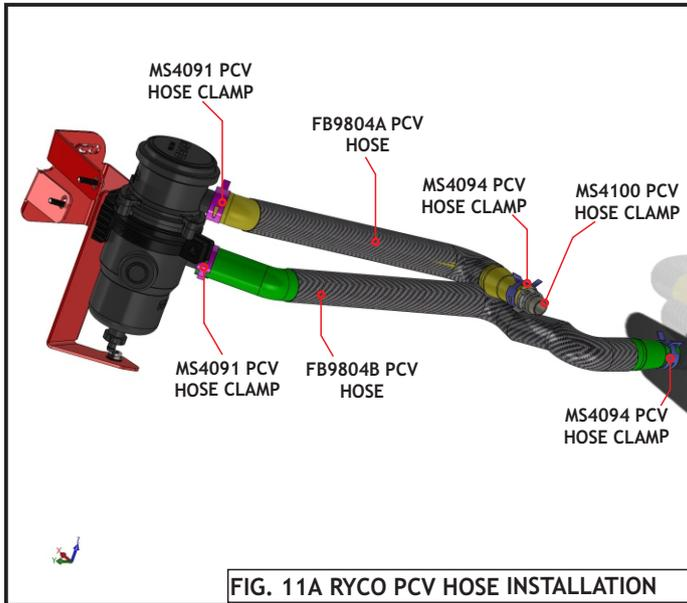

FIG. 11A RYCO PCV HOSE INSTALLATION
- Starting with the longer supplied MH9804B PCV hose, install the small end on to the Engine PCV Port & tighten with a supplied MS4094 hose clamp as shown in Fig. 11A & 11C.
- Install the other end of the MH9804B PCV hose on to the lower, inlet port, of the RCC350 Catchcan and tighten with an MS4091 hose clamp as shown in Fig. 11A & 11C.